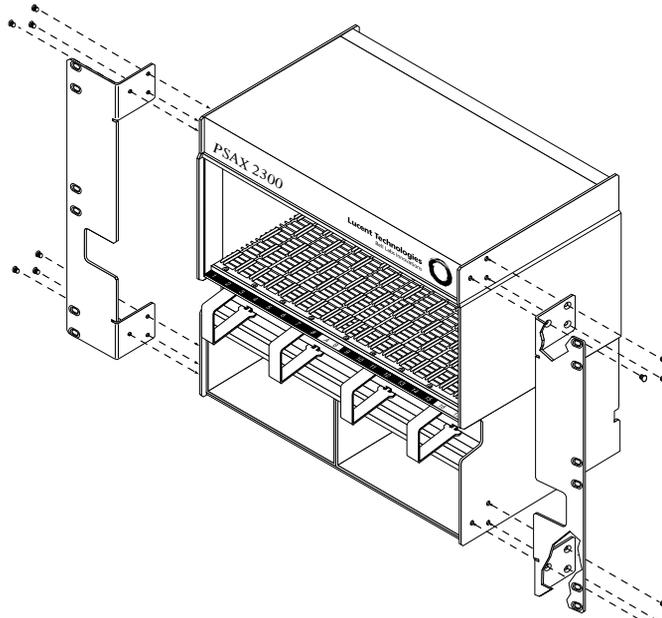
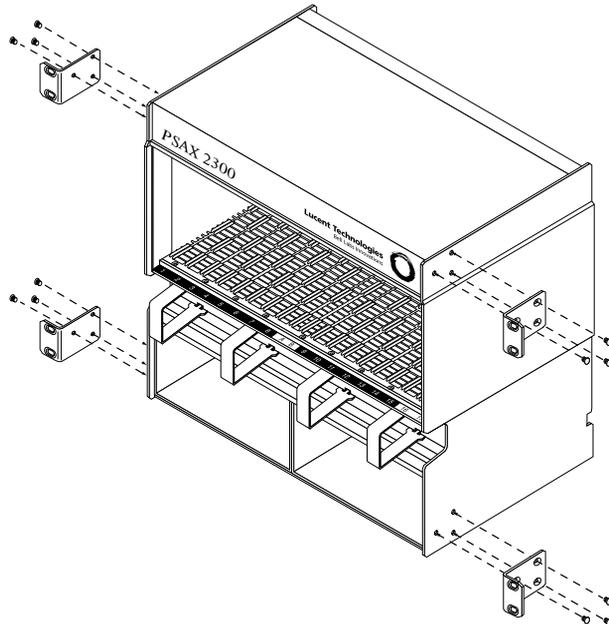

Figure 2. PSAX 2300 Chassis with Front-Position-Mounted Wide Brackets to Be Installed in a 23-inch Rack
Figure 3. PSAX 2300 Chassis with Front-Position-Mounted Small Brackets to Be Installed in a 19-inch Cabinet or Rack
- Mounting angle brackets are placed in a position (front edge of the chassis sidewall), with rack-attaching flanges facing the front for flush-front mounting in a equipment rack. See Figure 2 and Figure 3 for the positioning of the brackets.